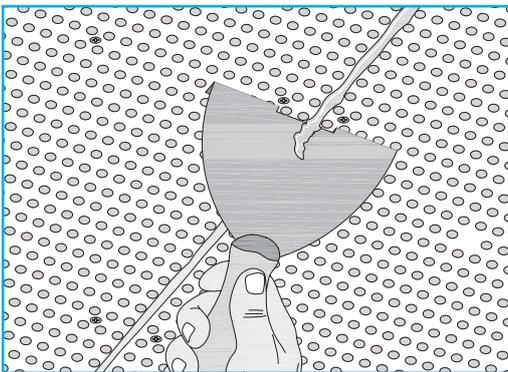

FIGURE 10 'Chipping' Off Excess Filler
- Scrape off excess Uniflott after hardening. *[Figure 10]*